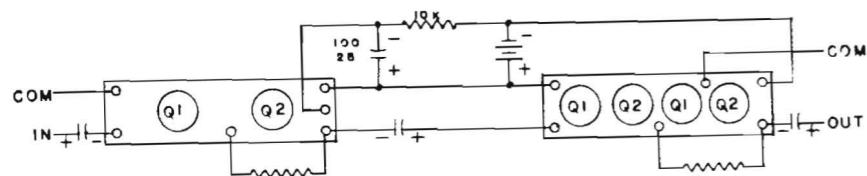

Figure 13
More than 1 unit may be connected in series for greater gain than is available in 1 unit. Standard connection of a preamplifier (660) and an amplifier (659) is shown in figure 13 below.
The modulation of B - through the power supplies - can be improved by the lowest possible output impedance of a common power supply. In addition isolation filtering can be provided as shown in Figure 13. It may also be beneficial to provide shielding between amplifiers if they are closely mounted. If shielding and variable gain are both required, the use of the Model 661 variable gain kit (See page 14) will provide both at minimum cost.